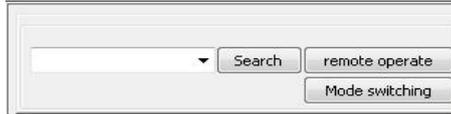

Figure 5-2
1) **Search:** Click the search button. After a few seconds, the software will automatically search to the thermal imaging camera, and show the IP address. As shown in the figure 5-2.